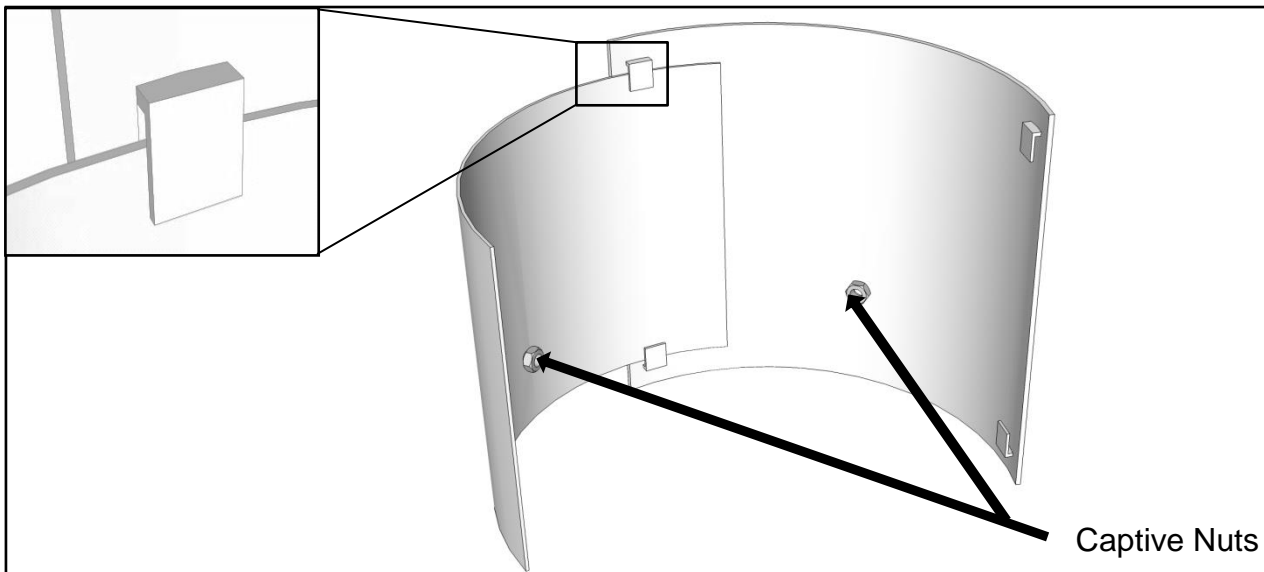

Fig1
1. Assemble the Aerodyne sleeve panels by slotting them together (Figs 1, 2&3)